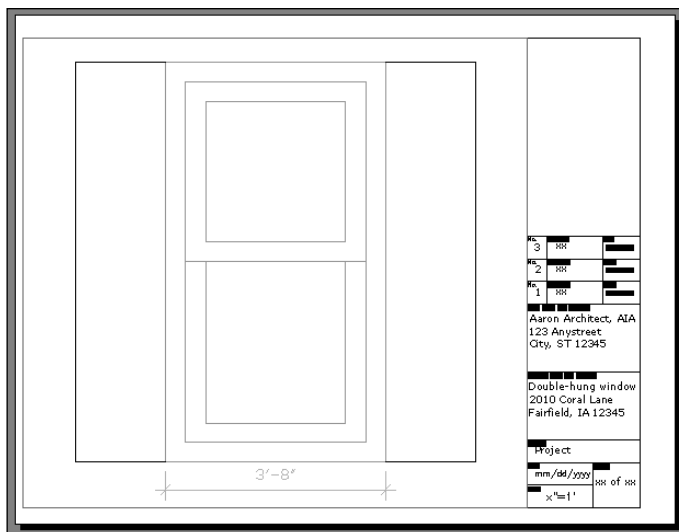

Figure 1-9: Viewing the window in Preview mode.
29. Click the Preview button to open the preview window. You should see the window and its title block laid out as shown in Figure 1-9.